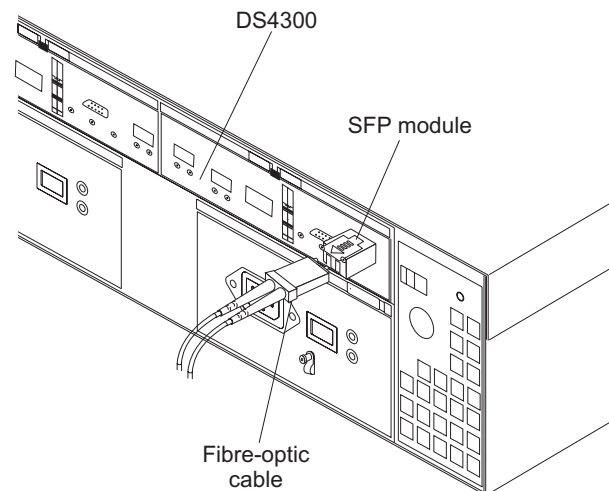
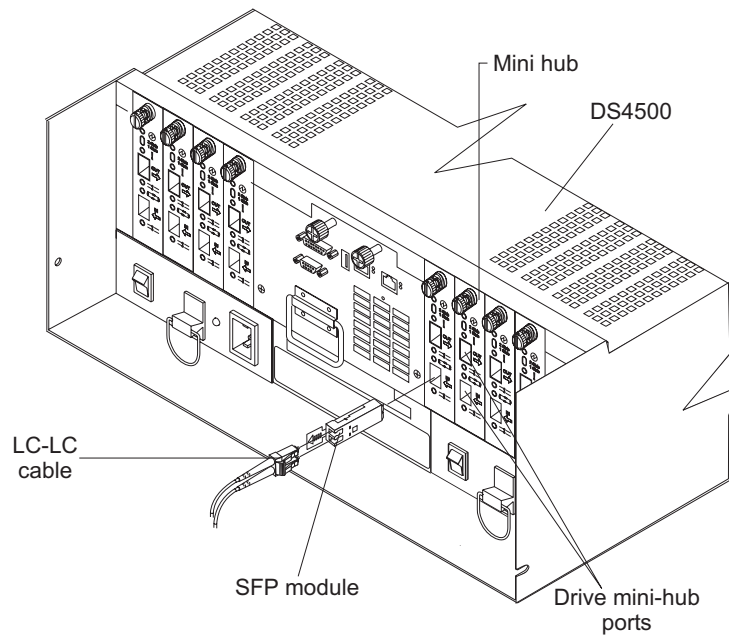
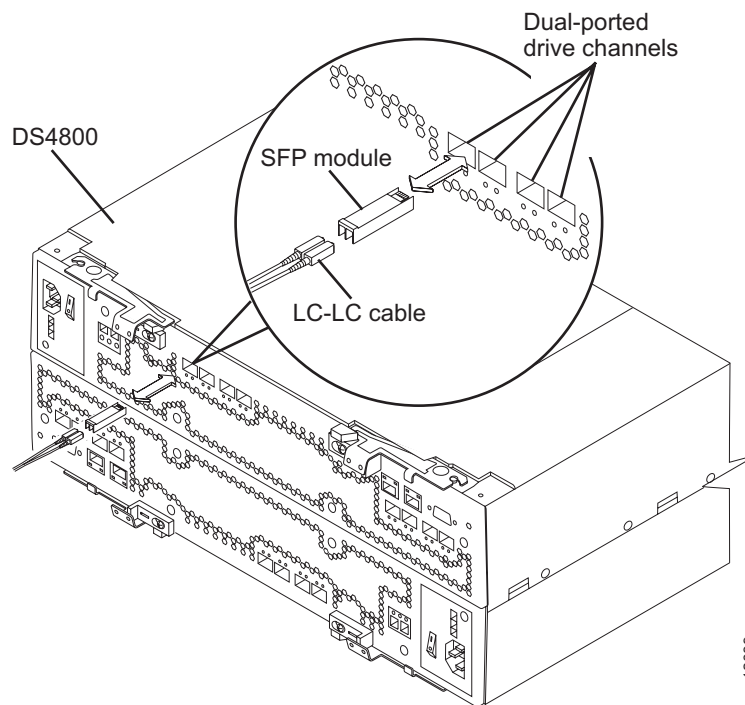

Figure 37. Connecting cables to the installed SFP on a DS4300
Figure 38. Connecting cables to the installed SFP on a DS4500
Figure 39. Connecting cables to the installed SFP on a DS4800
2. Connect an LC-LC fiber-optic cable to the installed SFP, as shown in Figure 37, Figure 38 on page 56 and Figure 39 on page 56.